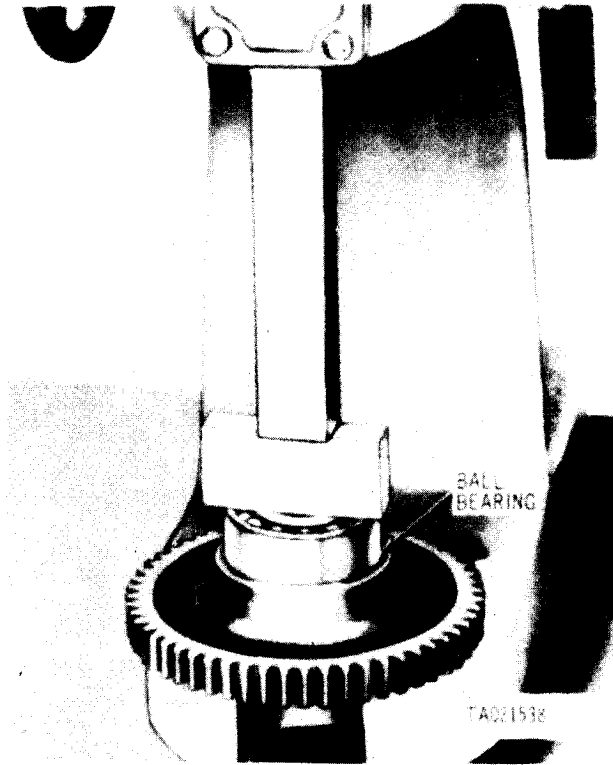

Figure 3-168. Pressing ball bearing into generator idler gear.
c. *Assembly.* Coat ball bearing (fig. 3-168) with engine oil and position bearing in bearing bore of generator idler gear. Carefully press bearing into gear until bearing seats against flange in gear.